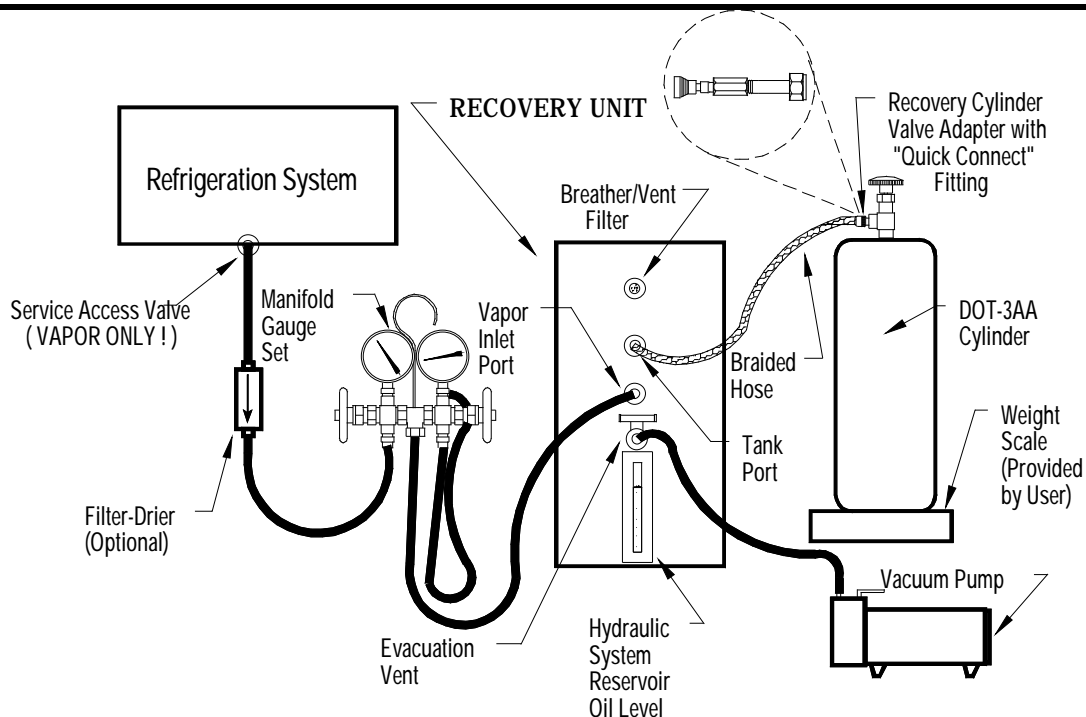

FIGURE 2. Recovery Mode Hook-Up
1. Connect refrigeration manifold gauge set to the refrigeration system under recovery and the RS-503/13-C3 refrigeration recovery unit as illustrated in figure 2. **DO NOT OPEN** the refrigeration system service access valve at this time.
2. Connect a DOT-3AA high pressure refrigerant cylinder to the recovery unit "TANK PORT" as illustrated in figure 2. **DO NOT OPEN** recovery cylinder valve at this time.
4. Connect vacuum pump to the recovery unit “EVACUATION VALVE” as illustrated in Figure 2. **DO NOT START** vacuum pump at this time.